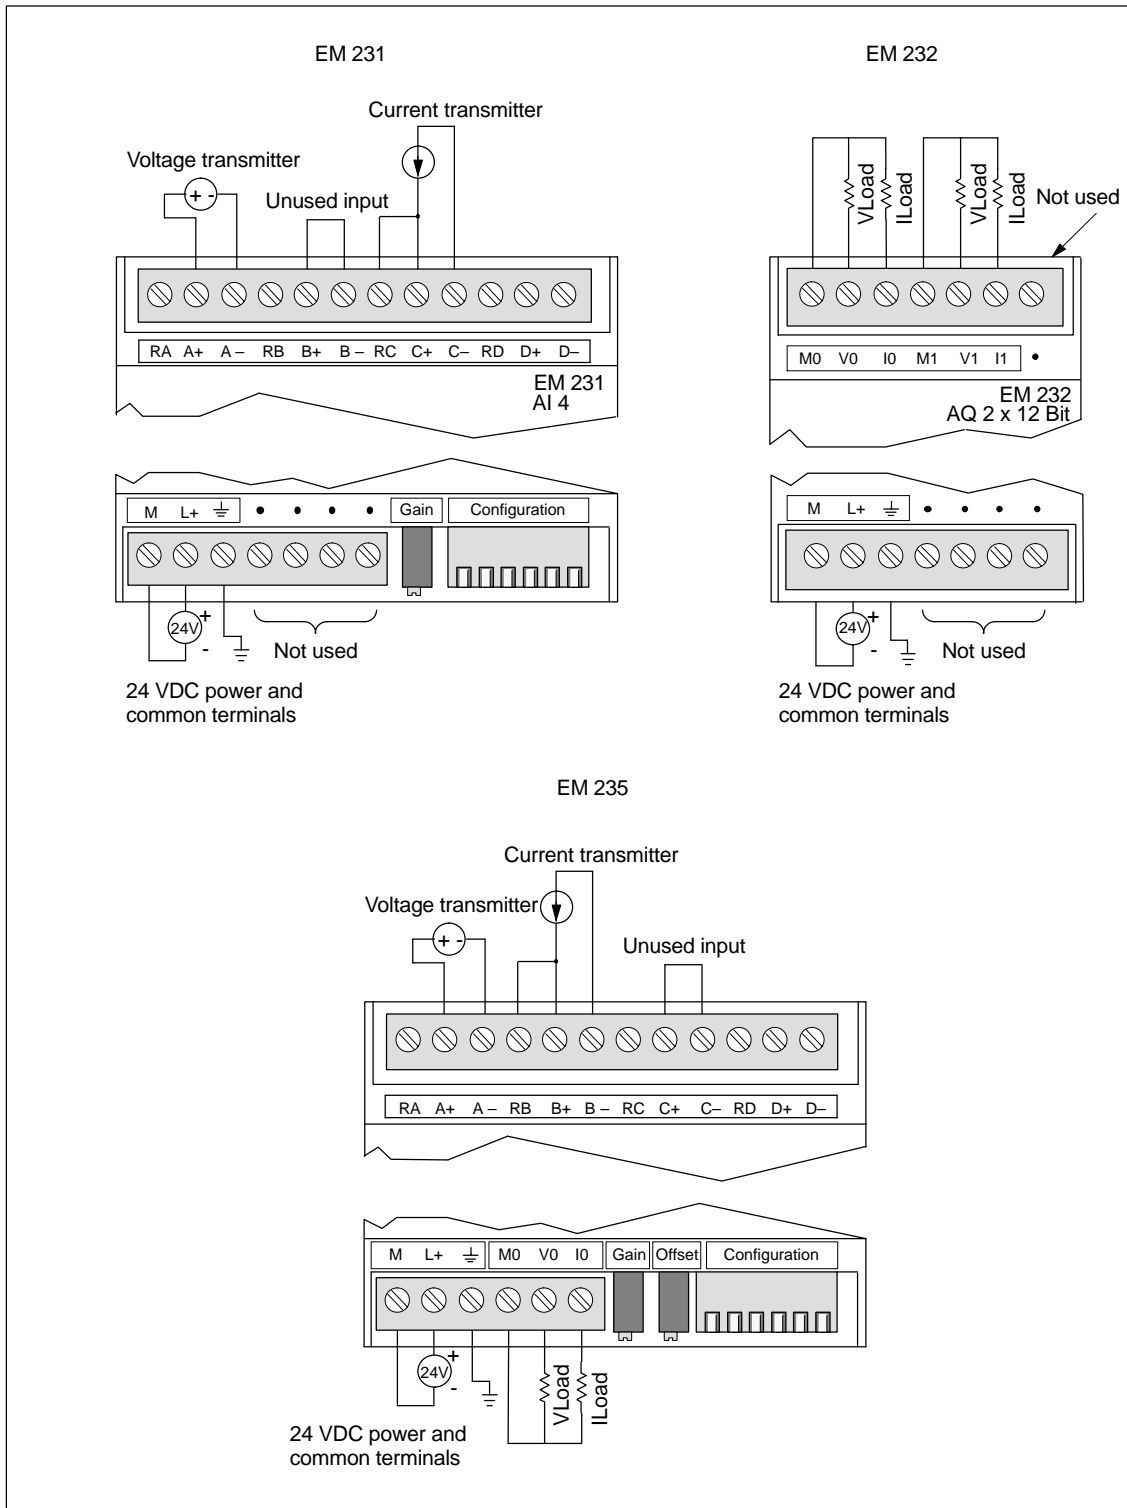

Figure A-19 Connector Terminal Identification for Expansion Modules EM 231, EM 232, and EM 235
- Short the inputs for any unused channels, as shown in Figure A-19.